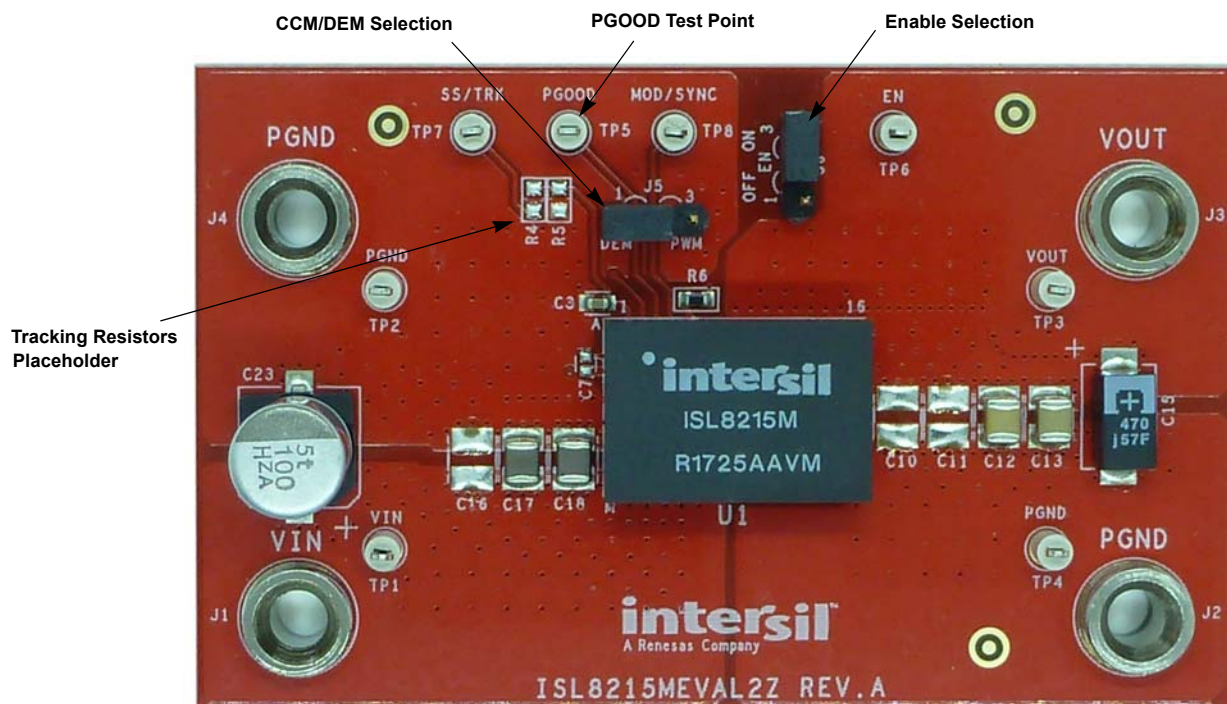
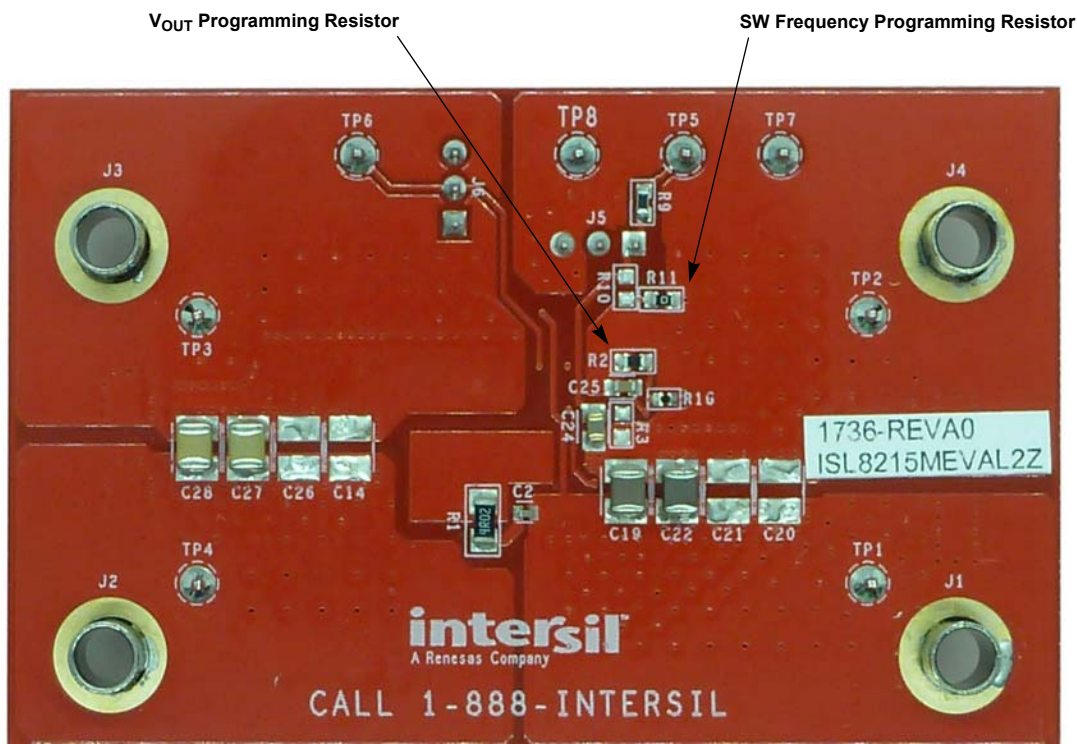

Figure 2. Top of Board
Figure 3. Bottom of Board
The ISL8215MEVAL2Z provides the peripheral circuitry to evaluate the feature set of the ISL8215M. The evaluation board includes several connectors, test points, and jumpers, that make validation of the module easy. The converter can be enabled and disabled by moving the jumper across the ENABLE pin as shown in Figure 2 on page 6. Connecting a jumper across the pins as shown in Figure 2 enables the PSM/DEM mode of operation, which can lead to higher efficiencies at light loads. Resistors R4 and R5 (Figure 2) can be used to evaluate the tracking functionality. Selecting features like external frequency synchronization can be performed by connecting the signal generator (square pulse waveform clock signal) to the MOD/SYNC pin. The output voltage (0.6V to 12V) and the switching frequency (300kHz to 2MHz) can be programmed by changing the resistors as shown in Figure 3 on page 6.
- (1) Disable the module by moving the jumper across the ENABLE pin as shown in Figure 2.
- (2) Use the appropriate cables to connect the DC input power supply to banana sockets J1 and J4 and the electronic load to sockets J3 and J2. Ensure that the polarity for the power leads is correct and the input voltage is within the operating range of the module (7V to 42V). Use test points TP1 (VIN) and TP2 (PGND) to accurately measure the input voltage.
- (3) Move the connector for the ENABLE pin to ON to enable the module. You can also remove the connector completely.
- (4) Turn on the input power supply.
- (5) Probe test points TP3 (VOUT) and TP4 (PGND) to observe the output voltage. The output voltage should read 3.3V.
- (6) Adjust the input voltage, V_{IN} , within the specified range and observe the output voltage. The output voltage variation should be within $\pm 1.5\%$.
- (7) Adjust the load current to within the specified range (0 to 15A) and observe the output voltage. The output voltage variation should be within $\pm 1.5\%$.
- (8) To change V_{OUT} , disconnect the evaluation board from the setup and populate a standard 0603 resistor at the R_2 placeholder location on the bottom layer. The “Output Voltage Resistor Settings” table in the ISL8215M datasheet can be used as a reference for programming different output voltages. Refer to the “ISL8215M Design Guide Matrix” table in the ISL8215M datasheet for correct input and output capacitors, switching frequency, and output voltage combinations.
- (9) To change the switching frequency, populate a standard 0603 resistor at the R_{11} placeholder location on the bottom layer. Refer to “Equation 2” in the ISL8215M datasheet for selecting the correct value of R_{11} within admissible operating range (300kHz - 2MHz).